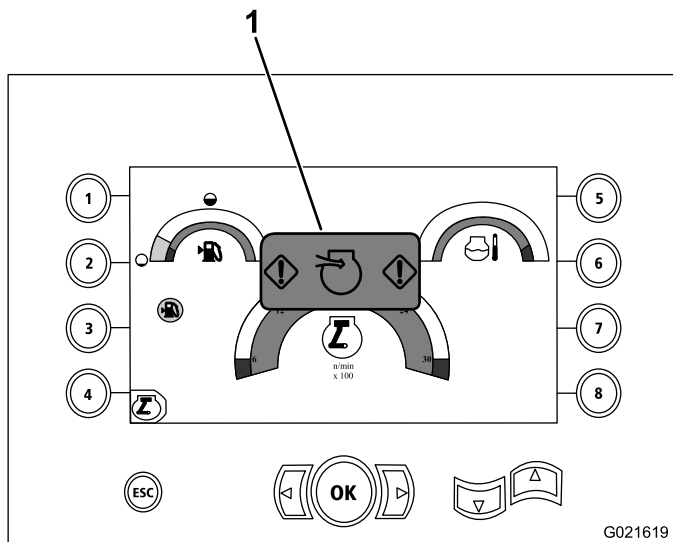

Figure 115
2. Check the restricted, air-cleaner indicator on the display screen as shown in Figure 115.